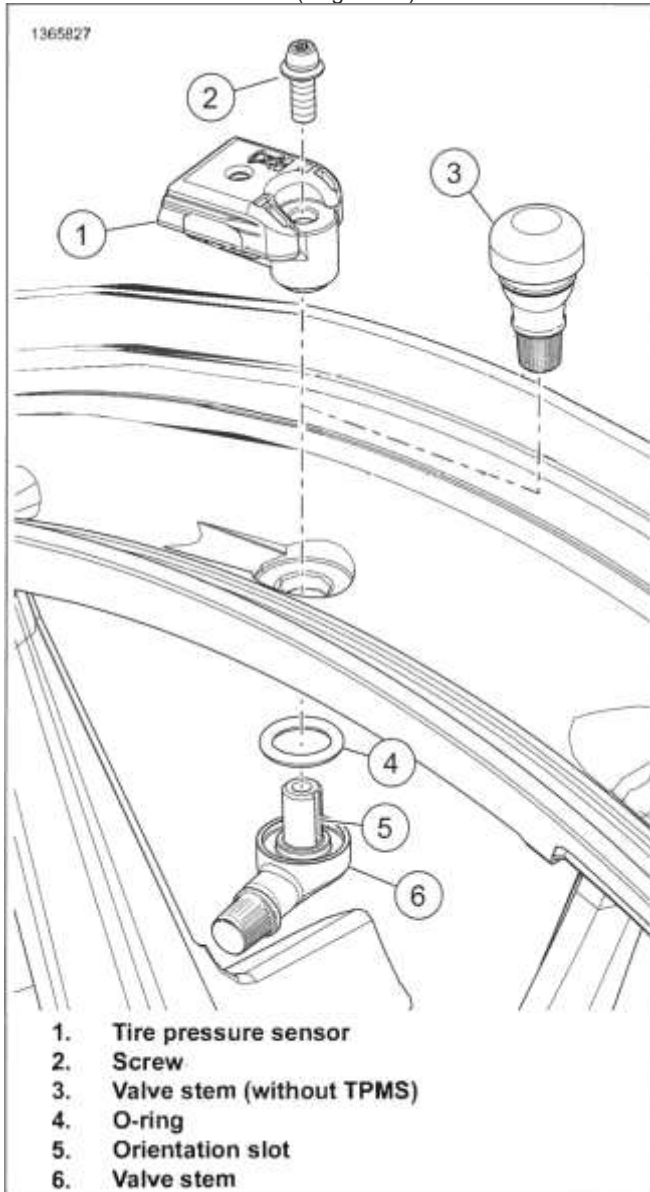

Figure 3-33. Tire Fill Valve/TPMS
1. See Figure 3-33. Remove sensor (1 ).
- a. Remove screw (2).
- b. Remove valve stem (6) and o-ring (4).
- c. Remove sensor (1) from wheel.
See Figure 3-33. Install new valve stem and sensor in wheel.
- a. Install tire pressure sensor (1) in slot in wheel.
- b. Install new O-ring (4) on valve stem (6).
- c. Align orientation slot (5) with rail in tire pressure sensor (1).
- See Figure 3-33. New screw (2) has pre-applied threadlocker.